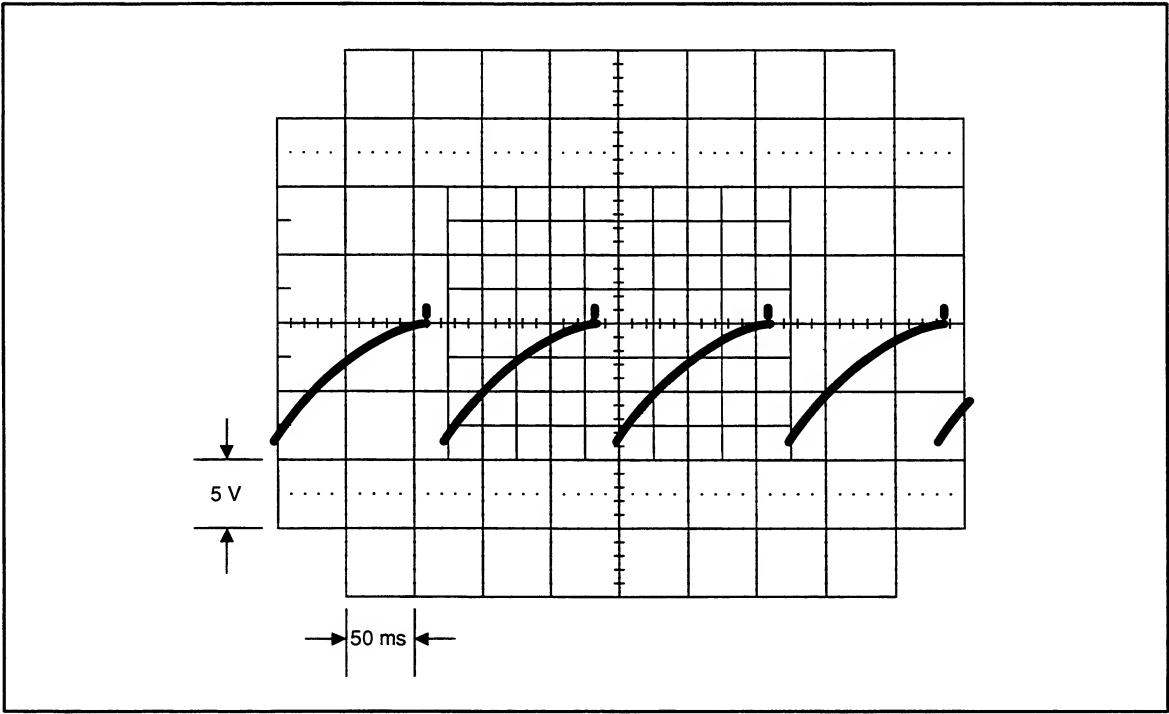

Figure 5-9. Waveform at U112, Pin 1, 5V DC Input
3. Test the level detectors by applying  $\pm$ 5V dc to the 2.2V range. The output of pin 1 of U112A with respect to the ac plate should look like the waveform in Figure 5-9 for both positive and negative voltages at the INPUT.